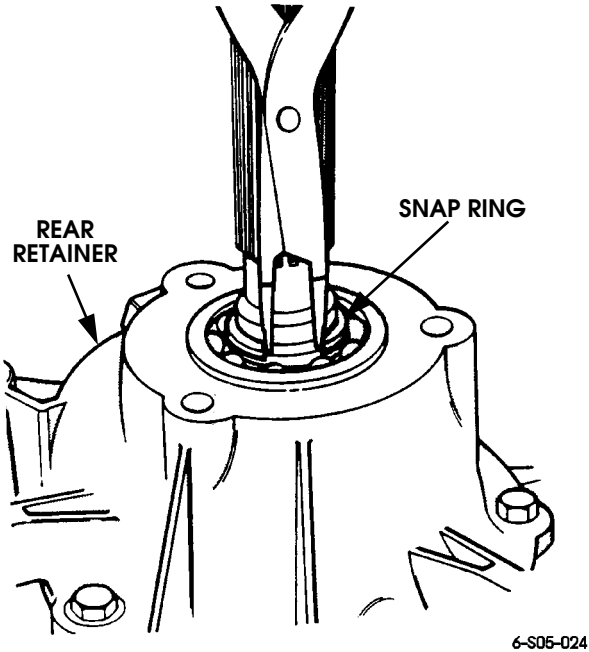

Figure 5-87: Mainshaft Snap Ring Bearing Removal
5. Remove rear retainer bolts. Then remove mainshaft bearing snap ring (Figure 5-87).